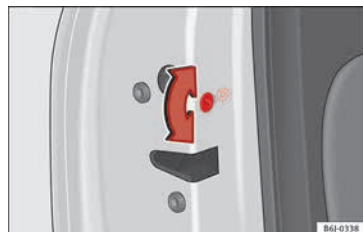

Fig. 129 Childproof lock on the left hand side door.
- With the door open, rotate the groove in the door using the ignition key, anti-clockwise for the left-hand side doors »» **Fig. 129** »
» **Fig. 129.**